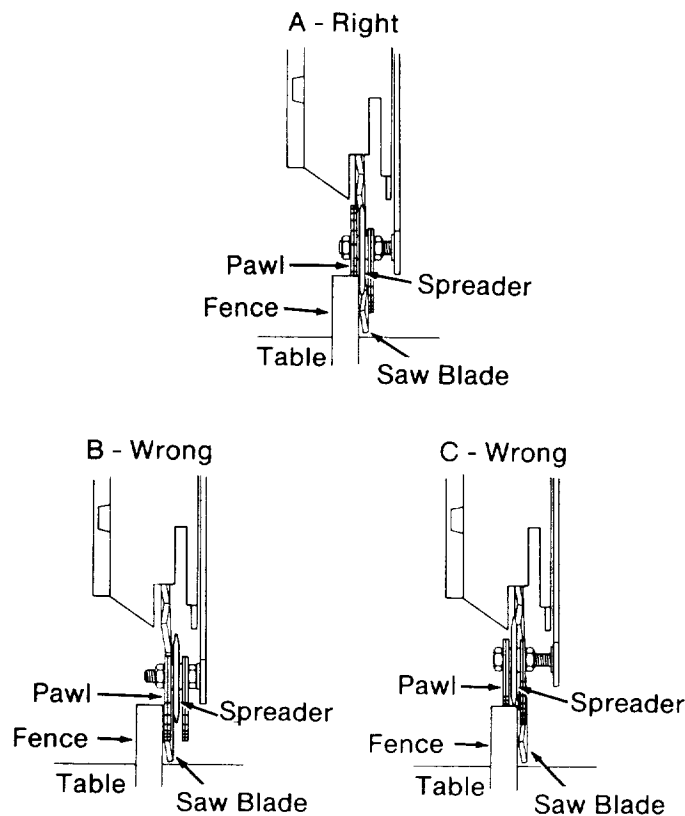

Fig. 127 - A,B,C
12. **If** the *spreader* and *blade* both rest against the *fence*, no adjustment is needed. (Figure 127-A) Go to step 17, **or**
If the *spreader* is in front of the *fence* but not touching it (Figure 127-B), go to step 13, **or**
If the *spreader* hits the top of the *fence* (Figure 127-C), go to step 13.